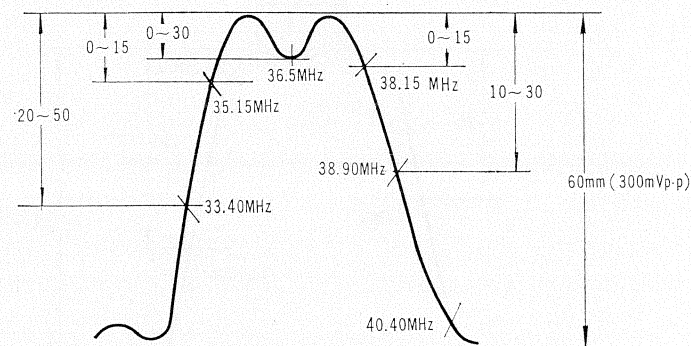

Fig. 4-2
- (1) Set AGC bias to 1.2 volts.
- (2) Adjust the sweep output level to obtain about 300mV p-p on the response.
- (3) Adjust both L101 (input coil) and L33 (tuner converter coil) to obtain the correct response curve as shown in Fig. 4-2.